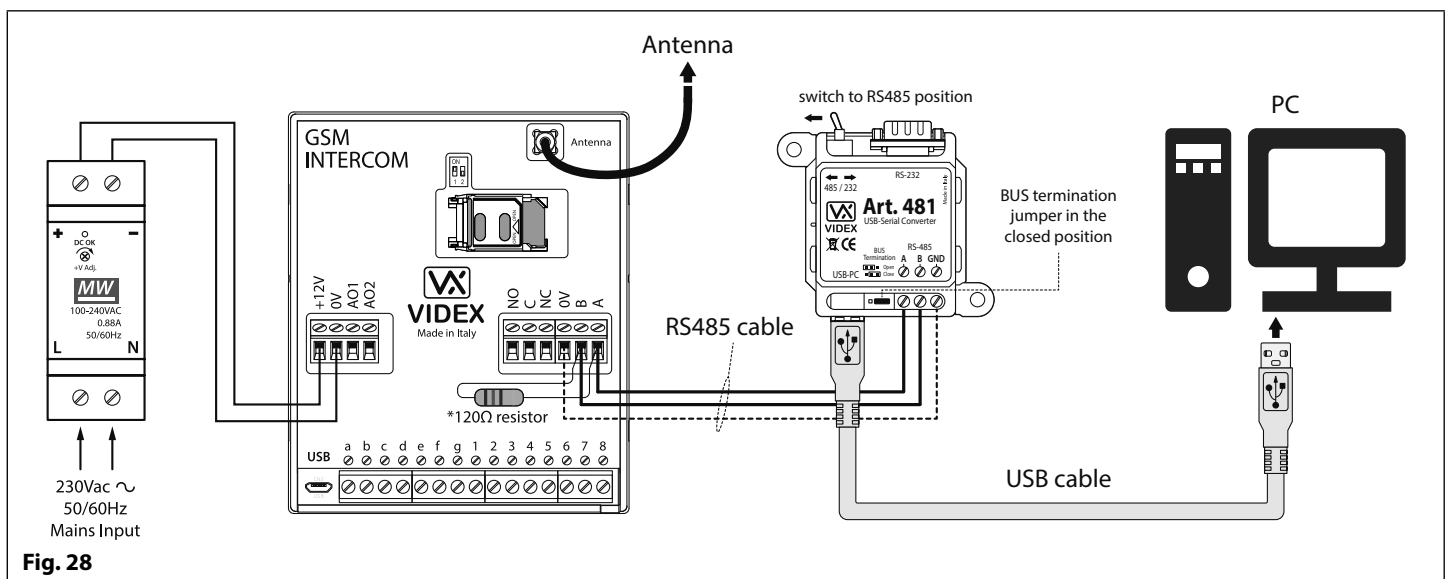

Fig. 28
The GSM PRO module can also be connected using an RS485 bus connection via an RS485 to USB converter (Art.481) as shown in **Fig.28**. This method of connection, like option 1, can be used for programming and setup of the GSM module, but can also be used in instances where a permanent connection to a PC is required for monitoring purposes and downloading event logs. When connected in this way the GSM module can only be connected as a 'one-to-one' bus connection to the PC, another GSM PRO module **cannot** be connected on the same RS485 bus to the PC.
*For end of line termination a 120 Ohm resistor must be fitted across the RS485 terminals A and B, as shown in **Fig.28**.